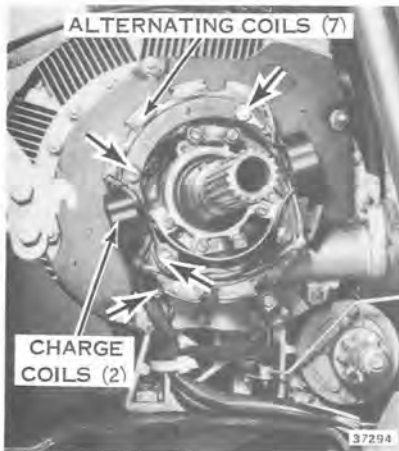

Figure 7-25
3. Remove three screws and lockwashers securing the alternator and charge coil assembly. Remove screw holding wiring harness. See Figure 7-25.